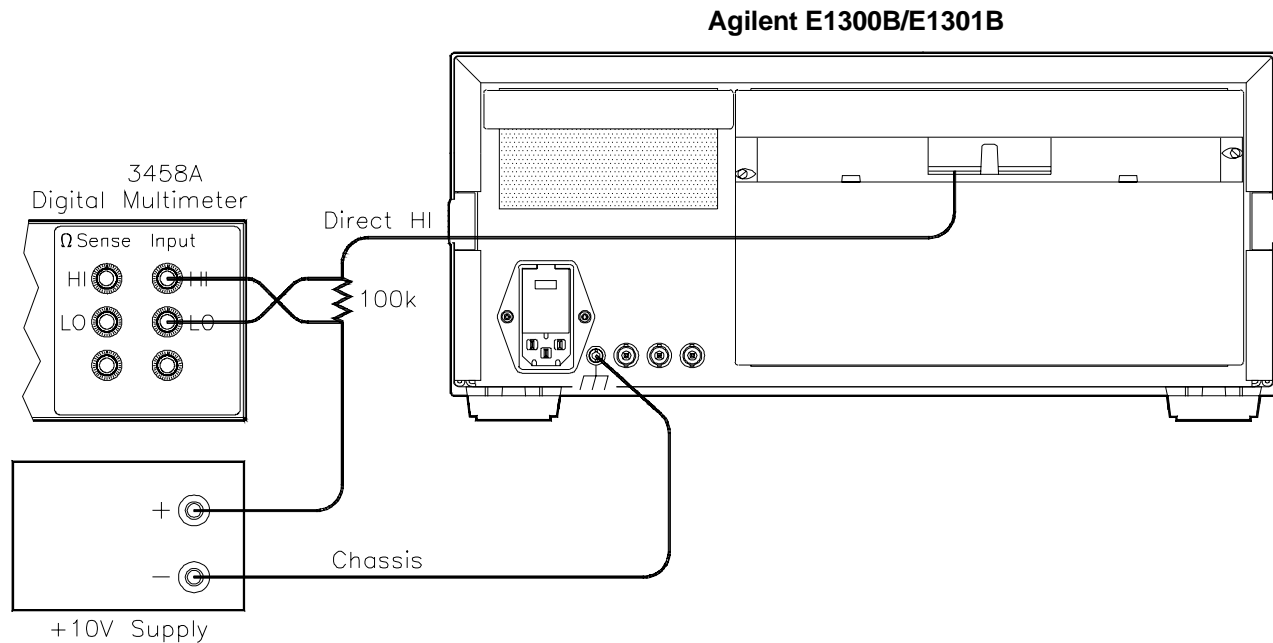

Figure 2-8. Positive HI to Chassis Leakage Connections
- Connect DMM, power supply, and resistor as shown in Figure 2-8